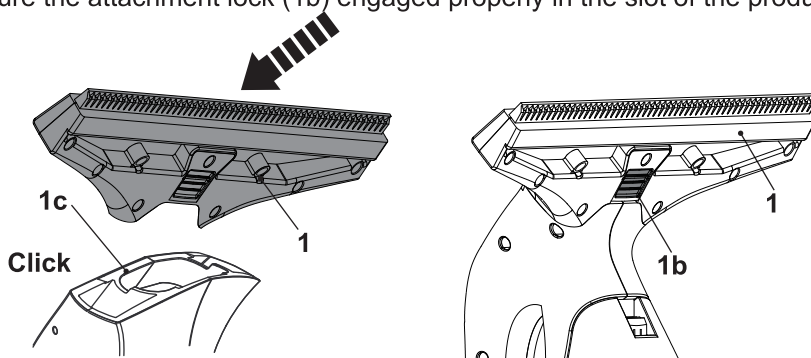

Fig. 2
- > Align the suction attachment (1) to the suction port (1c) of the product. Insert the suction attachment (1) into the suction port (1c) all the way to the end until you hear a click (Fig. 2).